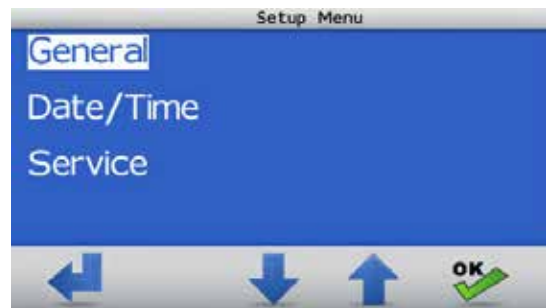

Figure 2-2, Setup Menu Screen
3. Touch the OK icon to set the options in the General Setup mode. Refer to Figures 2-2 and 2-3.